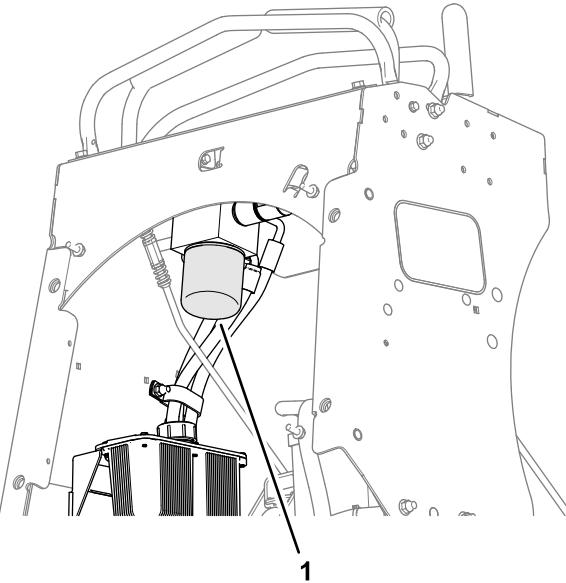

Figure 55
1. Unscrew the filter to remove it and allow oil to drain (Figure 55).
3. Turn the filter clockwise until rubber seal contacts the filter adapter, then tighten the filter an additional 2/3 to 3/4 turn (Figure 55).